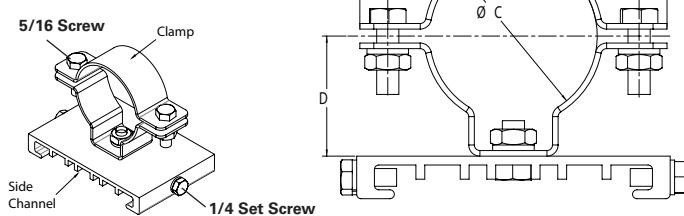

Figure 6. PM KIT – Pole Mount Details
- Verify that the clamp (see Figure 6) internal diameter is consistent with the diameter of the pole prior to installation. Clamps are available in 1.65" (42mm), 2.00" (51mm) and 2.36" (60mm) sizes.
- Slide the two (2) pole mount brackets onto the fixture, engaging the flange on the top of the fixture.
- Tighten the two (2) 1/4" set screws on each slide bracket until they bottom (see Figure 6). Torque to 78 in.-lbs. (8.8 N-m).
- Remove the two (2) 5/16" screws, lock washers and nuts on each clamp and remove the upper clamp halves.
- Fixture is now ready for mounting. It is strongly suggested to use two (2) qualified tradespeople to proceed with the final mounting of the fixture. This is recommended to avoid any personal injury or damage to the fixture.
- Install the two (2) upper clamp halves and the 5/16" screws, lock washers and nuts on each clamp.